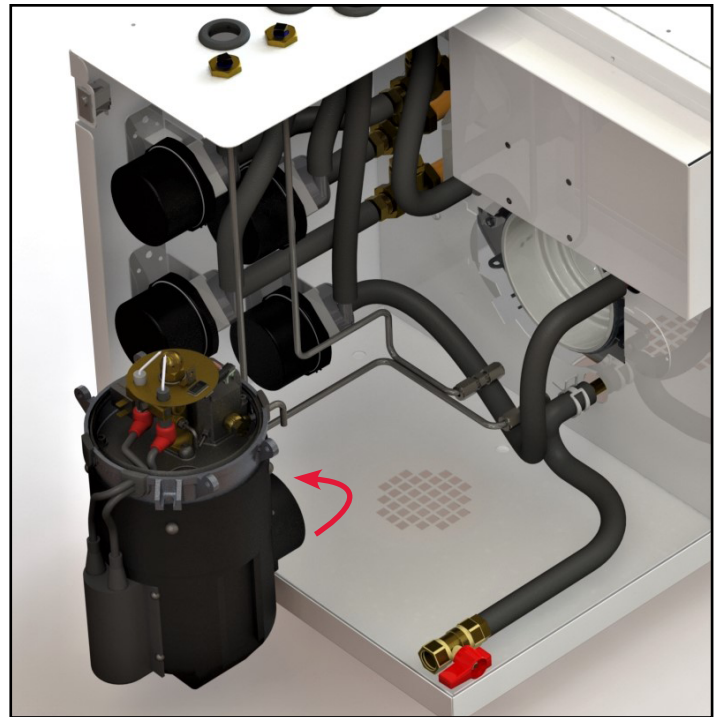

Figure 157
1. Carefully pull the diesel burner away from the Aqua-Hot 4 - 5 inches before rotating the burner, then remove completely as shown in Figure 157.